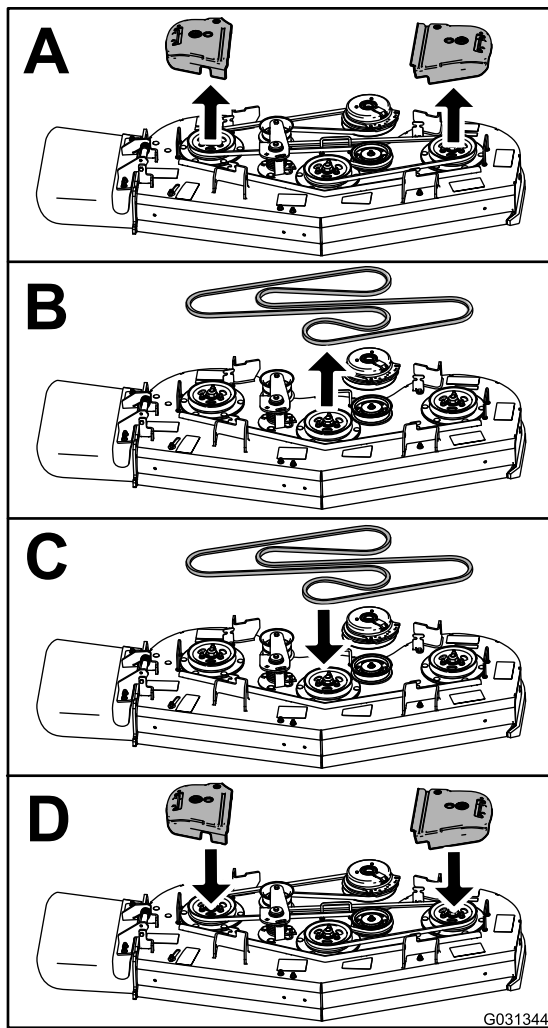

Figure 76
3. Replace the belt as shown in Figure 76.